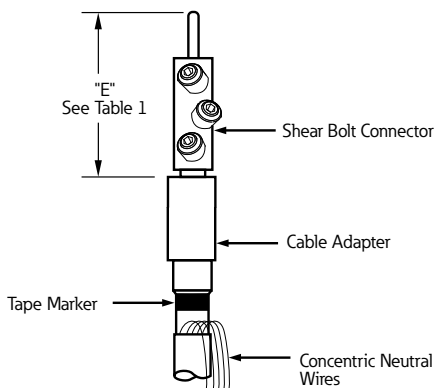

Figure 12. Line illustration for dimensional check.
- Length should be no longer than "E" dimension. (Refer to Figure 12 and Table 1.)